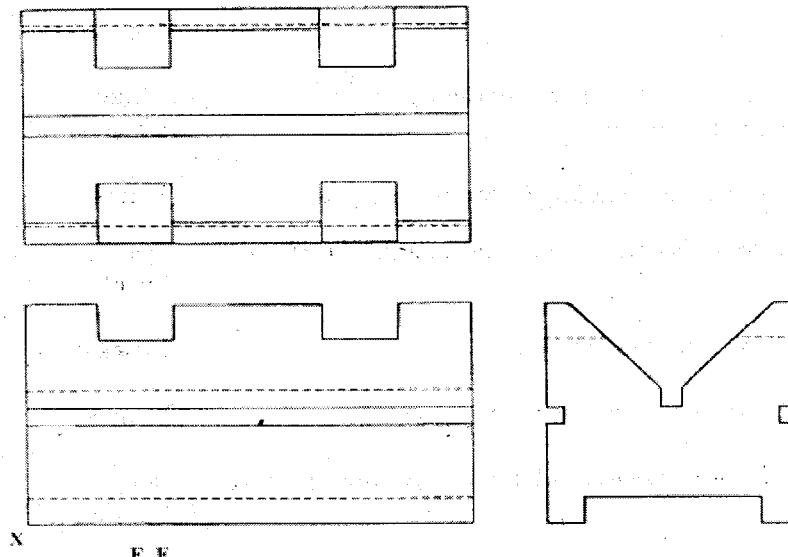

Figure 3
- 11 Figure 3 shows **three** orthographic views of an object drawn full size in third angle orthographic projection.